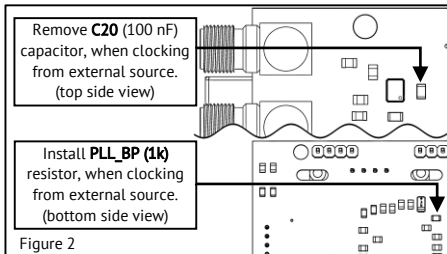

Figure 2
- From an external source, when using it, **make sure that capacitor C20 (100 nF) is removed** (Figure 2), and **resistor PLL\_BP 1 kOhm is installed**. To achieve the best results, refer to Table 1.
When using an **external clock source**, the signal is fed to the SMA connector labeled "**REF CLK IN**", when using it, **make sure that capacitor C20 is removed** (Figure 2), and **resistor PLL\_BP 1 kOhm is installed**. To achieve the best results, refer to Table 1.